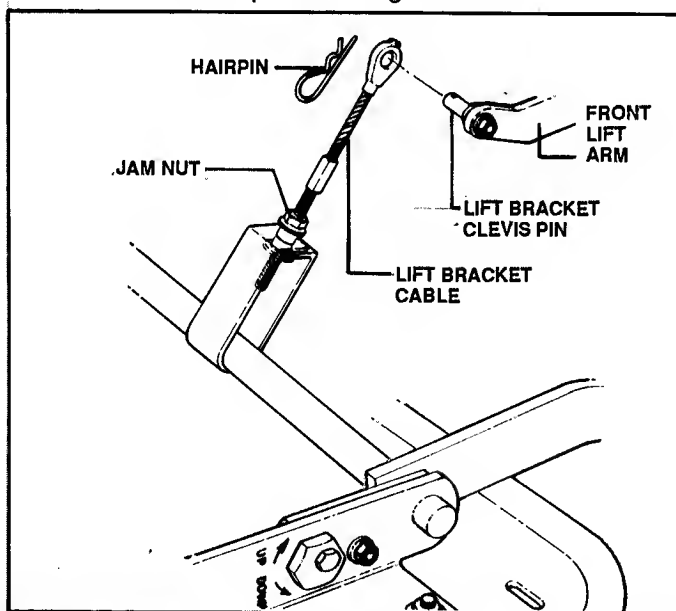

FIGURE 26
2. Remove hairpin from FRONT LIFT BRACKET CABLE clevis pin. See Figure 26.